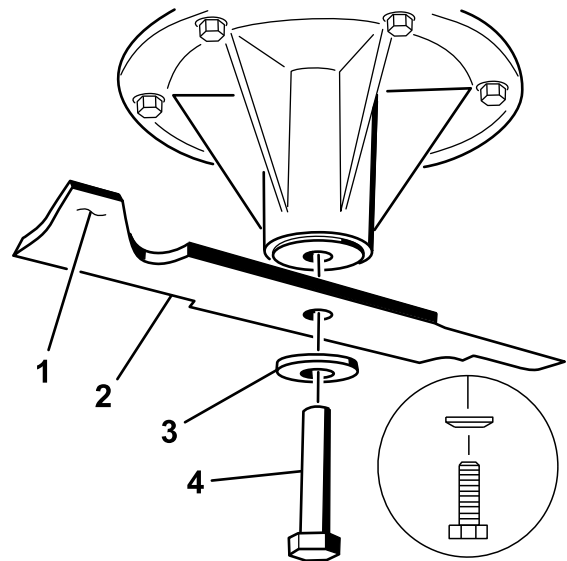

Figure 102
2. Remove the blade bolt, the curved washer, and the blade from the spindle shaft (**Figure 102**).